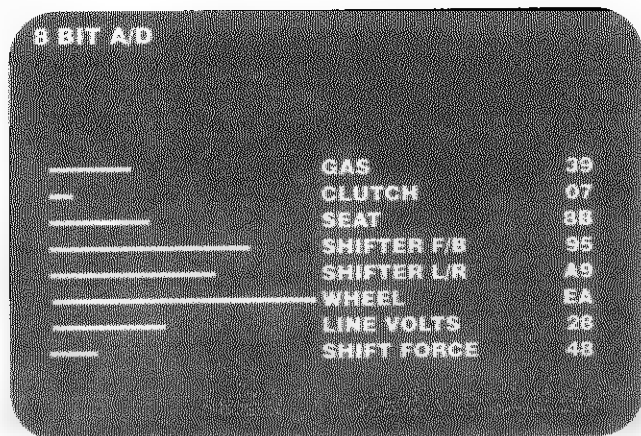

Figure 2-19 Pots: 8-Bit Screen
- The controls under the heading *Pots: 8-Bit* feed into the 8-Bit A/D converter circuit on the main PCB. (See Figure 2-19.) These controls are the gas pedal, clutch pedal, seat movement, shifter (front to back), shifter (left to right), steering wheel position, and shifter force. (The steering wheel position is also checked on the 12-bit A/D converter circuit. If the numbers do not match, the steering wheel force is turned off.)